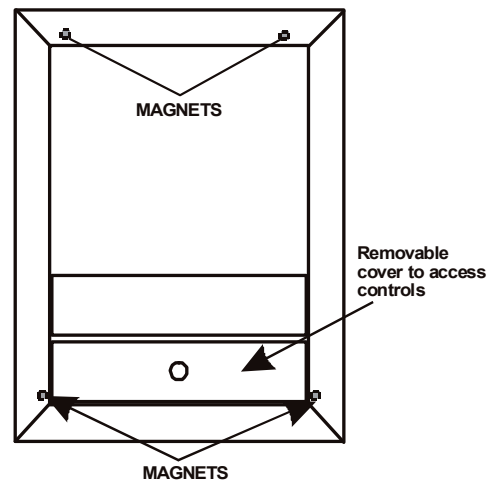

Figure 33
2. The fascia is held on by four magnets. These will either be attached to the trim or supplied loose in a separate envelope. Position them as shown in **Figure 33**.